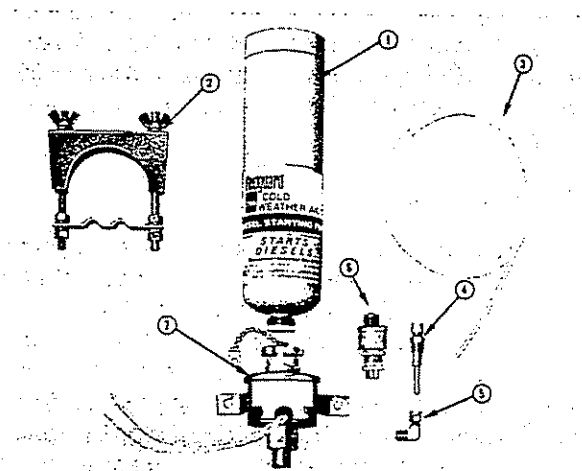

Fig. 1-12, (OM1008L). Electrically operated valve
The electrically operated valve, Fig. 1-12, includes the valve body (7), 90 degree elbow (5), clamp (2), push button switch (6), and nylon tube (3). The thermostat is mounted on the engine exhaust manifold and cuts out the valve by sensing manifold heat when the engine is running. See parts catalog for fuel cylinder (1) and fuel atomizer fittings (4). These fittings must be ordered separately, as required.